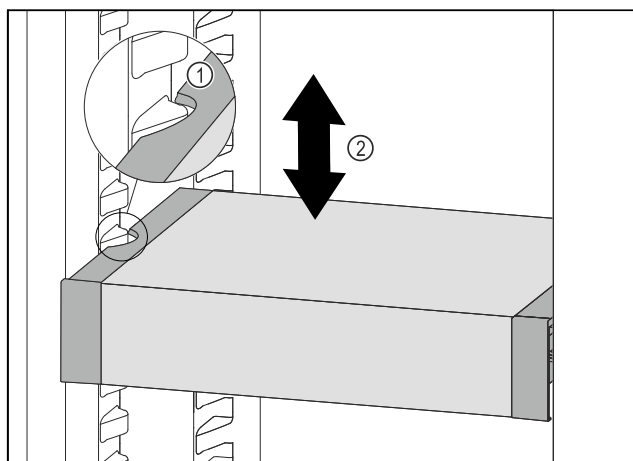

Fig. 79
- Pull VarioSafe forwards until the recesses in the side of the VarioSafe are at the level of the support rib in the refrigerator compartment. Fig. 79 (1)
- Move VarioSafe up or down in the refrigerator compartment until the desired height is reached. Fig. 79 (2)